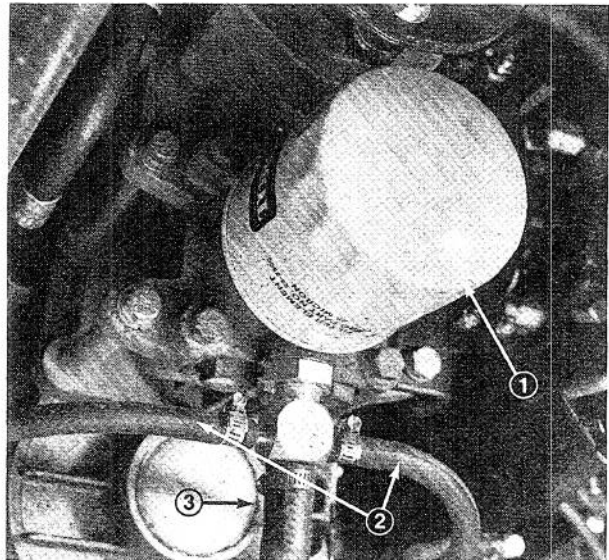

Figure 45
3. Clean the area around the hydraulic oil filter and remove the filter (Fig. 45).